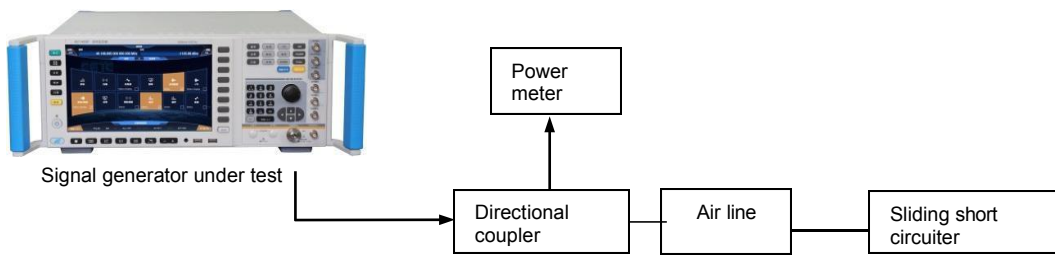

Fig.7.11 Source Standing Wave Test
Step 2. Connect the device as shown in Fig.7.11. The HP778D directional coupler is used and it is powered on and reset and warmed up for at least 30 minutes.